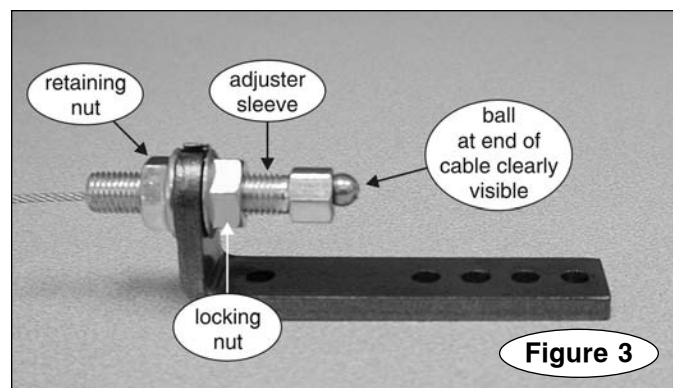

Figure 3
2. The adjuster sleeve (Figure 3) will be attached to the slot in the L-shaped clamp. With this in mind, determine which side of the brake pedal arm will position the ball at the end of the cable directly in line with the pulley.
2. Attach the adjuster sleeve to the brake pedal clamp – completely unthread the retaining nut (Figure 3) and insert the adjuster sleeve through the hole in the L-shaped bracket.
2. When the ball at the end of the cable is clearly visible (Figure 3), tighten the nuts with two 1/2" wrenches.